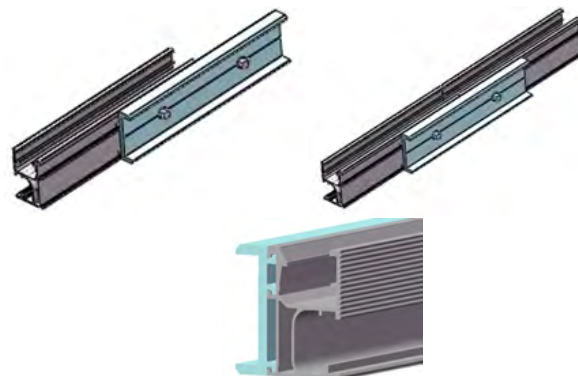

Figure 5.4A
5.4.1 To connect several rails together, slide half of the splice into the rear side of the rail. Fasten the first M8 Bolt using an Allen key, and slide the next rail into the splice as shown in Figure 5.4A. Tighten the second M8 Bolt using an Allen key. The total rail length is recommended not to be over 30 meters considering rails thermal expansion problem. Splice provides the electrical connection between the 2 rails through the pressure bolts. This eliminates the need of using 2 earthing lugs